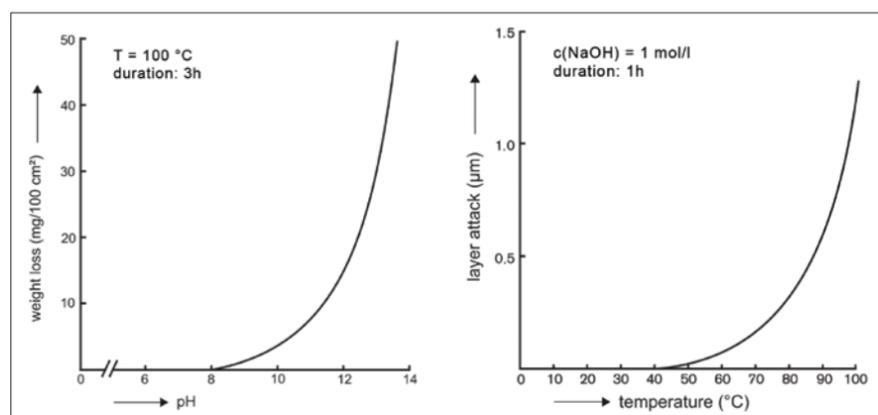

Figure 1. Typical curve of alkali attack on borosilicate glass 3.3 dependent on temperature (left) and pH value (right).
Highest volume accuracy, dimensional stability, and excellent chemical resistance against nearly all common substances are the main reasons why laboratories often use volumetric instruments made of glass. Only hydrofluoric acid (HF) attacks glass significantly because HF dissolves SiO2. Concentrated phosphoric acid and high concentrated alkaline solutions do attack glass significantly but only at elevated temperatures above 70°C. Although glass is virtually resistant to all other common chemicals, e.g. organic solvents, water and acids, glass will be slightly degraded with a very small depth of erosion over a relatively long time (Figure 1). Subject to this effect, glass volumetric instruments have to be monitored regularly in order to get reliable results.
The use and, especially, cleaning of the volumetric instruments lead to increasing volumes after a certain time. Usually, volumetric instruments are cleaned in dish washing machines along with alkaline detergents including complex agents. The depth of erosion depends on temperature, duration and detergent (pH value). The concentration of the detergent and the temperature has a high influence on erosion: Higher concentration causes higher depth of erosion (Figure 1, left). If temperature is increased from 70°C to 100°C tenfold higher depth of erosion can be observed (Figure 1, right). Other aggressive cleaning methods like ultra sonic baths increase the glass erosion, but cannot be avoided in some cases.